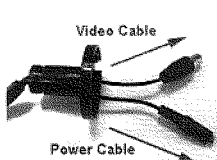

Figure 1
- 1 Find the supplied internal part of the bracket (as shown in Figure 1) in the accessory pack.
- 2 Pass the video cable first, and then pass the power cable through the middle hole of the internal part of the bracket (as shown in Figure 1).